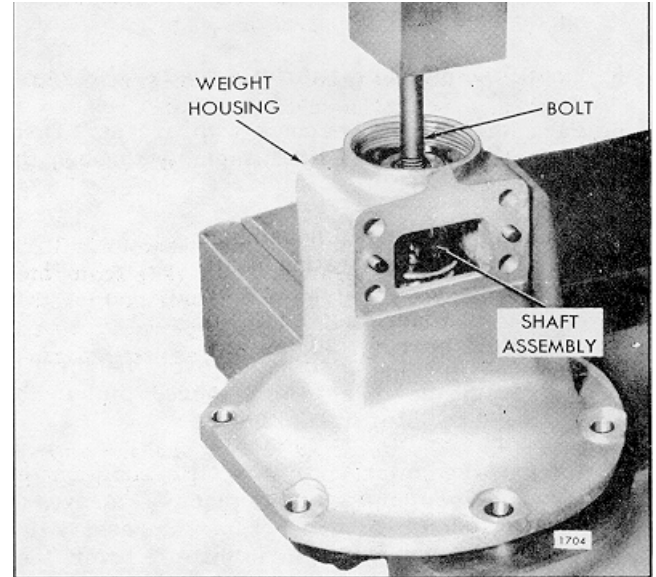

Fig. 7 Removing Governor Weight and Shaft Assy.
- b. Straighten the tang of the lock washer and remove the bearing retaining bolt (71).
- c. Thread a 5/16"-24 x 3" bolt into the tapped end of the weight shaft (66). Support the weight housing (59) on the bed of the press as shown in Fig. 7 and press the shaft from the bearing.
- d. Slide the riser thrust bearing (60) and governor riser (67) from the shaft (66).